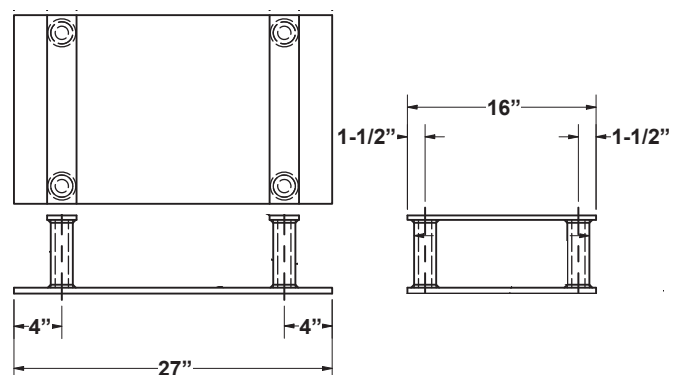

Figure 15
- **Drive Embed Method (Part #7953-0195, Figure 15)**